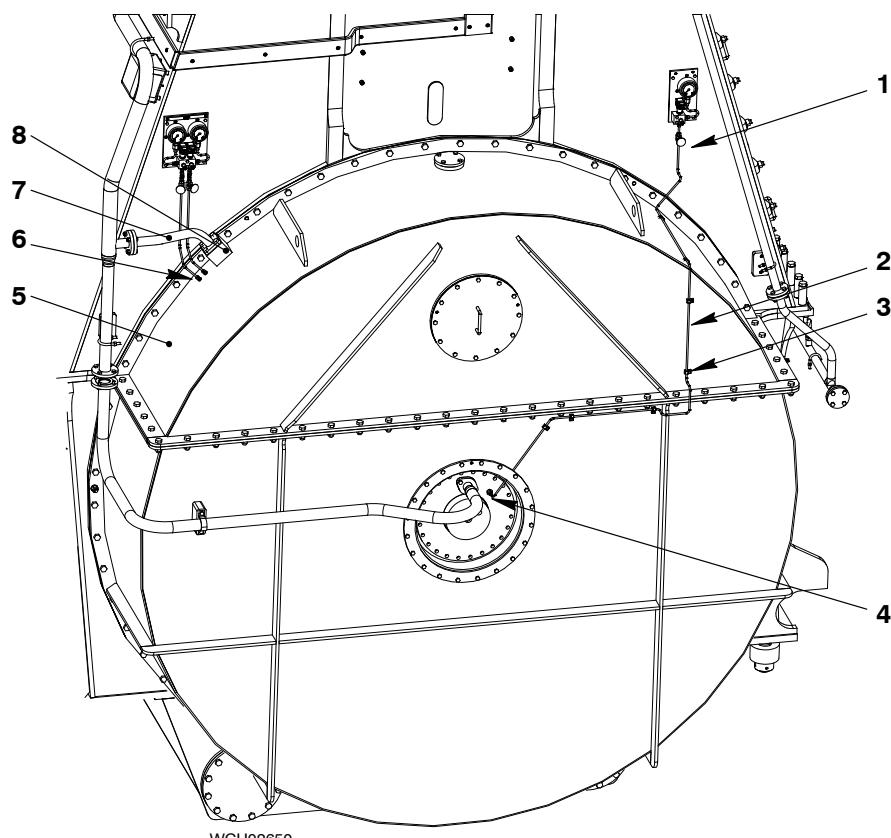

Fig. 6
- 1) Attach the top housing (5, Fig. 6).
- 2) Connect the two pipes to the screw-in unions (6).
- 3) Attach the oil inlet pipe (7) to the flange (8).
- 4) Connect the copper pipe (2) to the needle valve (1), hose clips (3) and damper housing (4).